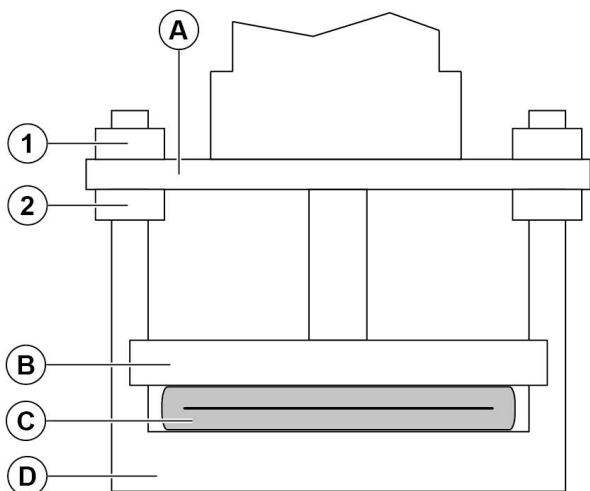

Figure 18.
11. Tighten both nuts (1) equally so, that the strip of light disappears (Figure 18). Loosen the lower nuts (2) if necessary.